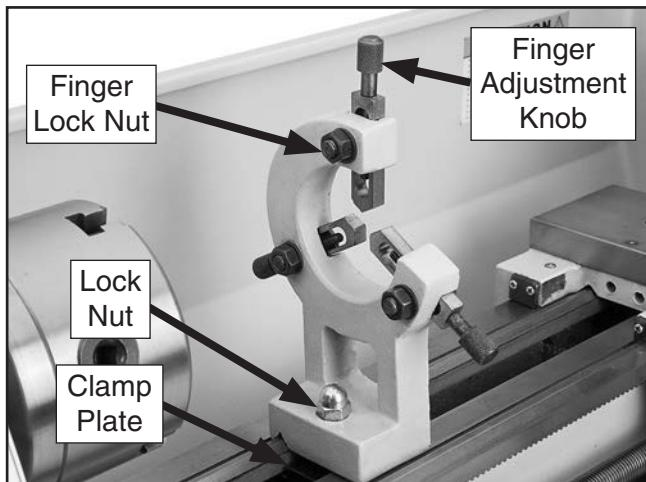

Figure 47. Steady rest components.
4. Loosen finger lock nuts (see **Figure 47**), turn finger adjustment knobs, and adjust fingers as required for workpiece.